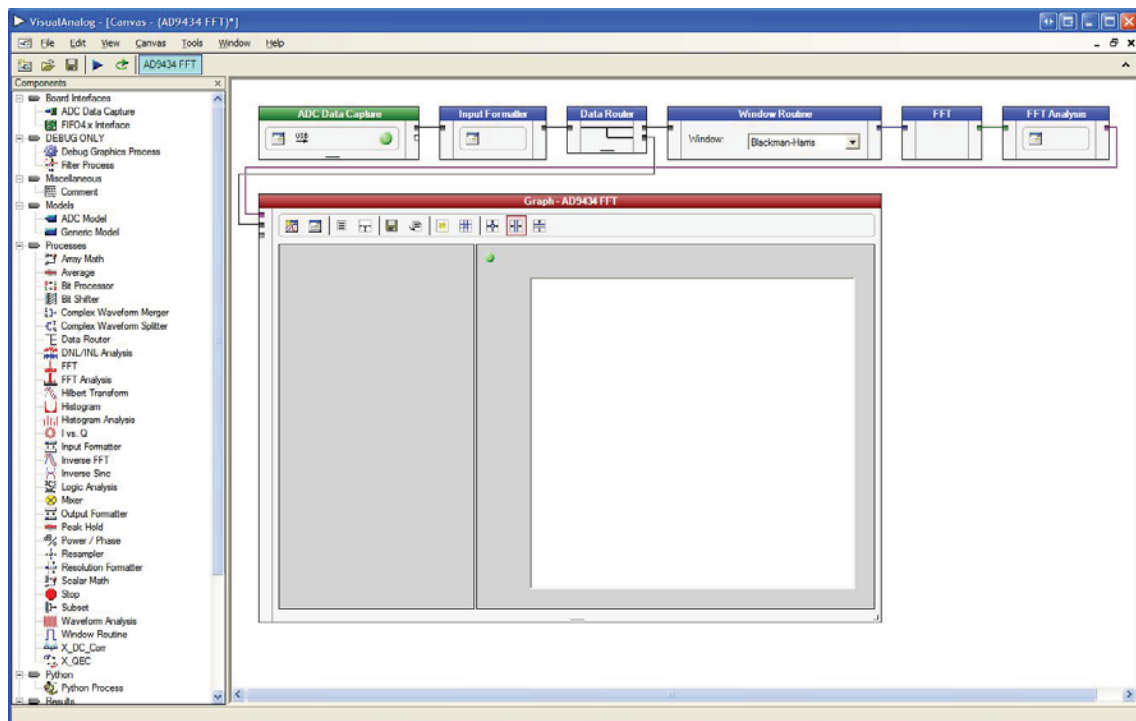

Figure 8. VisualAnalog, Main Window
3. To change features to settings other than the default settings, click the **Expand Display** button, located on the bottom right corner of the VisualAnalog window, to see what is shown in Figure 8.